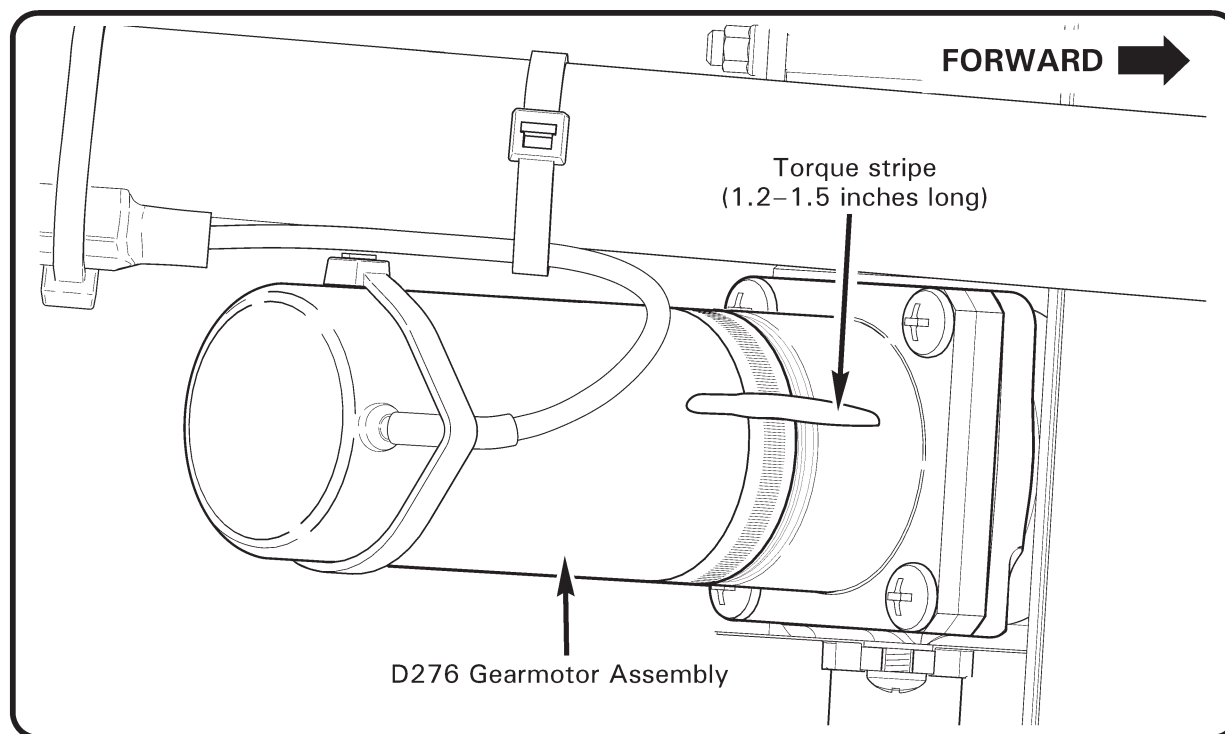

FIGURE 2-6A GEARMOTOR ASSEMBLY TORQUE STRIPE
**Gearmotor Assembly Torque Stripe:** Refer to Figure 2-6A. Verify torque stripe is not broken or missing. Renew deteriorated torque stripe as required.
2.410 Inspection Procedures and Checklist (continued)**7. Open Cowling Doors (7A), Remove Tailcone Cowling (7B) & Mast Fairing (9) (cont'd)** \_\_\_\_\_